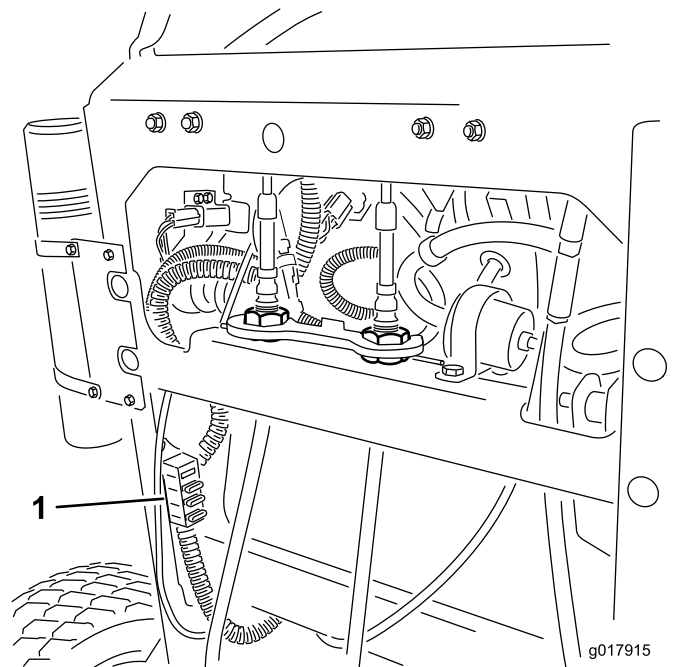

Figure 53
2. Pull out on the fuse to remove or replace it (Figure 53).
Note: Ensure that the correct-size fuse is installed (Figure 53).